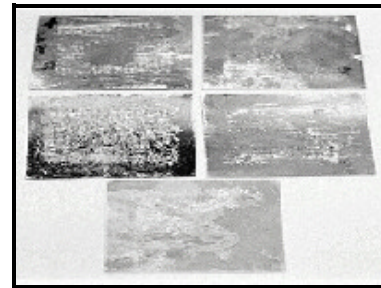

Figure 4
5. Once mica and stainless steel have been cleaned place plate assembly on the middle oven rack at approx. 100 to 150 F. for ½ to 1 hour to ensure plates are completely dry. Once dried, mica plate must be inspected. Hold plate up to a light to ensure no arc holes have developed or that any other damage is present (SEE FIG. 4 & 5).